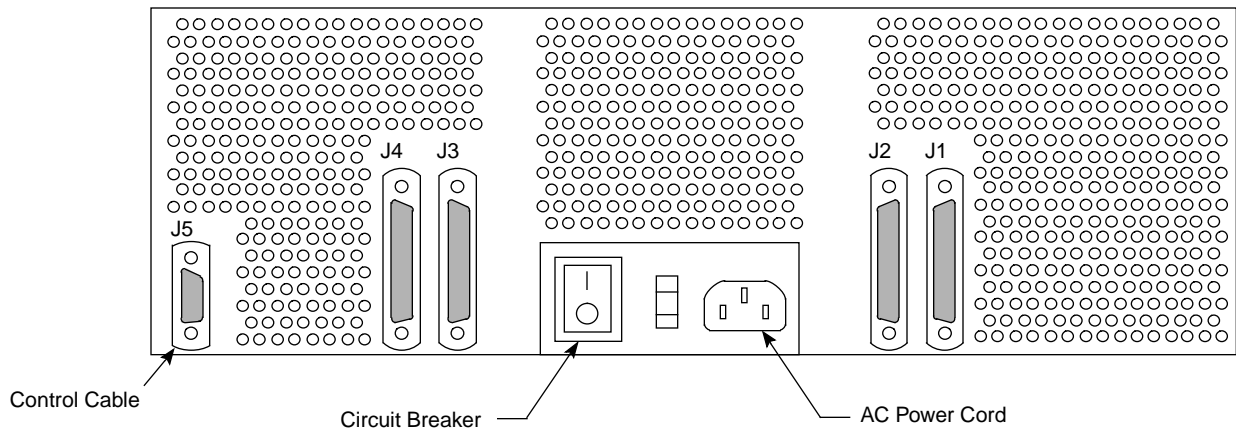

Figure 4. J1 and J3 Connections
1. Install the terminators (P/N 90266200) on the J1 and J3 connectors on the rear of the PE-30S tray. Refer to Figure 4.
2. Connect the power cable (P/N 90307100) into the power cord outlet on the rear of the PE-30S tray. Refer to Figure 4.
3. Connect the control cable (P/N 90307000) into connector J5. Refer to Figure 4.
4. Connect the SCSI cables (P/N 90272200) into connectors J2 and J4. Refer to Figure 4.